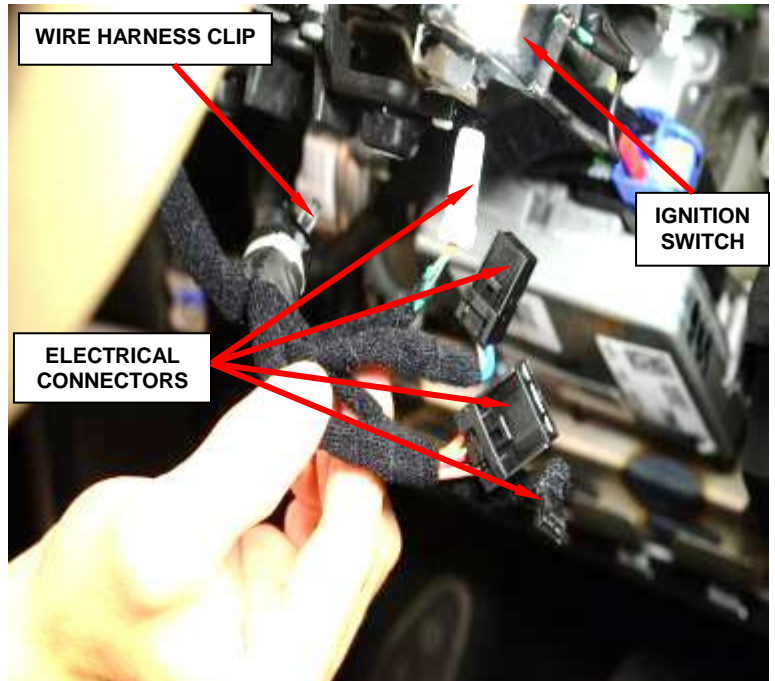

Figure 18 – Wiring Harness Connections
d. Disconnect the electrical harness connectors at the ignition switch (Figure 18).